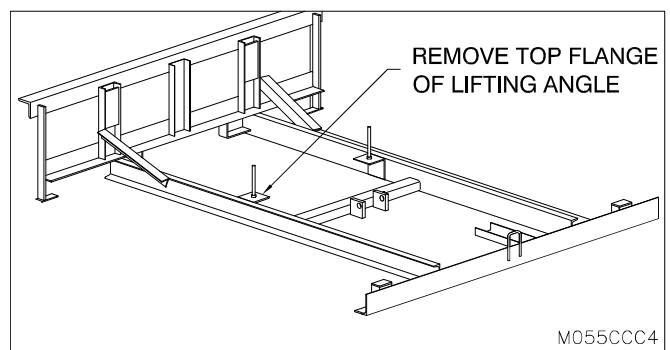

Figure 11: Top Flange Removal Diagram
22. ___ Once the leveler has been fully installed, remove the top flange of the lifting angle. (See “Figure 11: Top Flange Removal Diagram” on page 9)